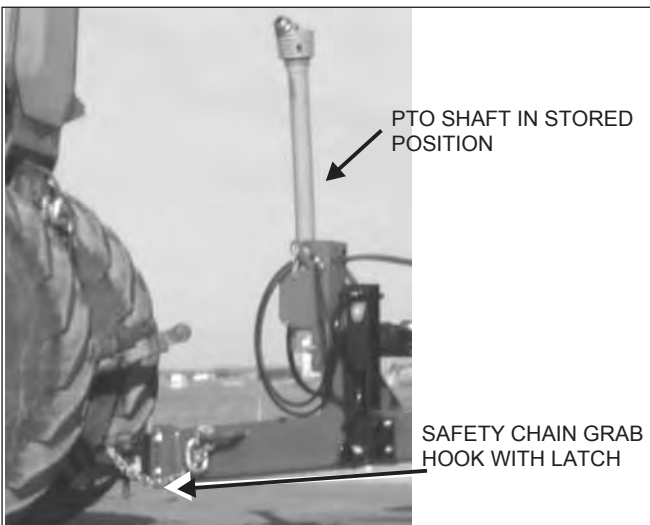

FIGURE 3. SAFETY CHAIN INSTALLATION
18. Install safety chains as illustrated on figure 3. This is a requirement for travel on public roadways. They are installed to retain the connection between tractor (or other towing vehicle) and spreader whenever traveling on public roads.
3. Install safety chain around tractor drawbar support and secure with safety latched grab hook. See figure 3.